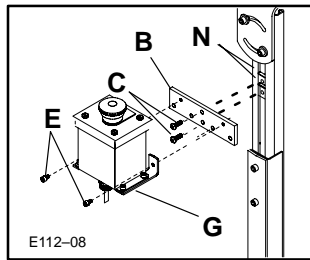

Figure 8: E-Stop Vertical Mounting to Steel Stand Leg
- b. Attach the unit to the Leg channel in the manner shown in Figure 8. Attach the Pushbutton Box assembly with Mounting Brackets (in the same way it was packaged, when shipped) to the two Spring Nuts, using the M6 x 16 mm Button Head Cap Screws. Tighten Screws with 4 mm Hex Key Wrench provided.